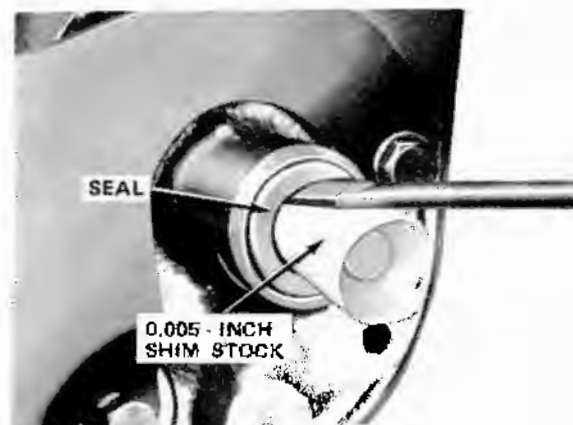

Fig. 11-86 Removing Oil Seal
(1) Remove pump pulley nut.
(2) Remove pump drive belt from pulley.
(3) Remove pulley from pump using a suitable puller. **Do not hammer pulley off shaft.**
(4) Remove pulley drive key from shaft.
(5) Insert a piece of 0.005-inch shim stock (approximately 2-1/2 inches long) around shaft and push it past seal until it bottoms in pump housing (fig. 11-86).